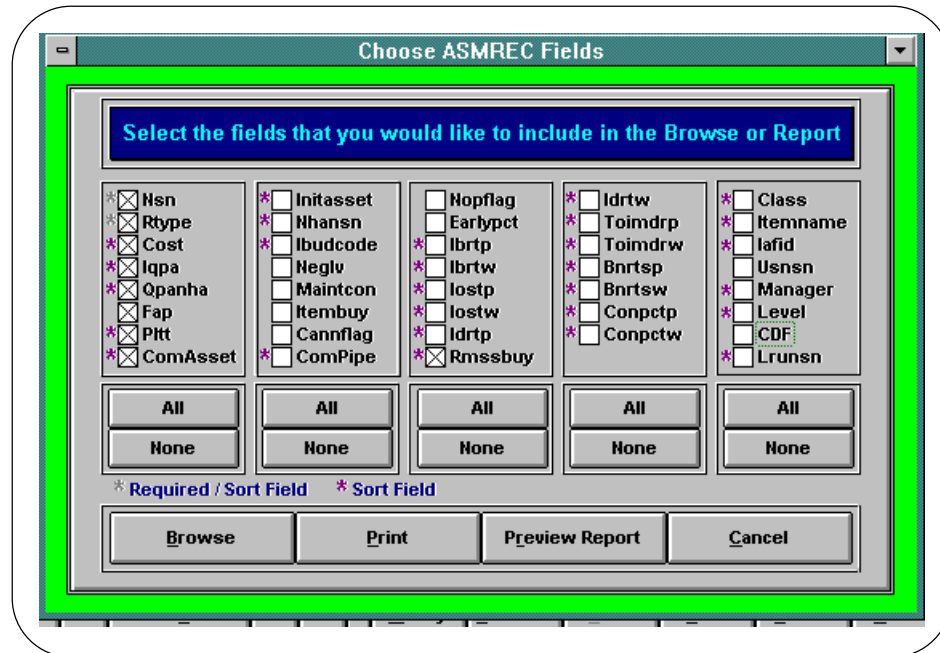

Figure 1-3
- To view the component data (LRU and SRU information), click on **Component Data** now. The window in Figure 1-3 should appear on your screen.